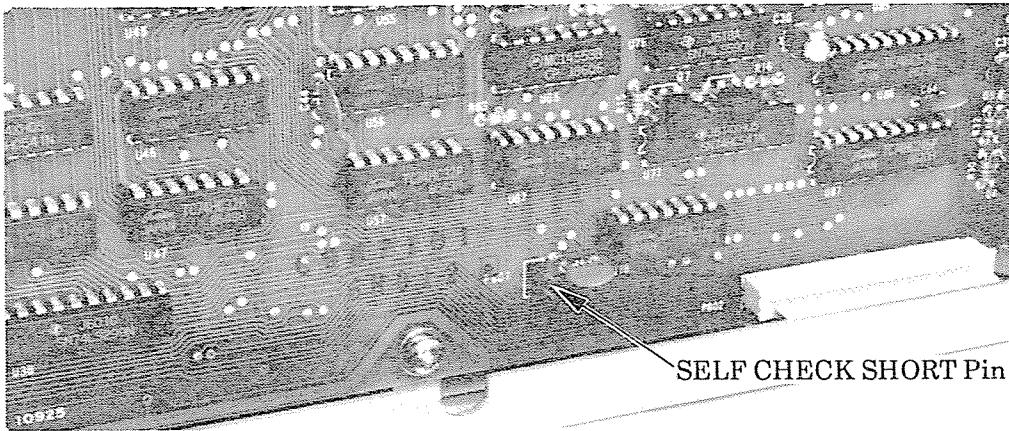
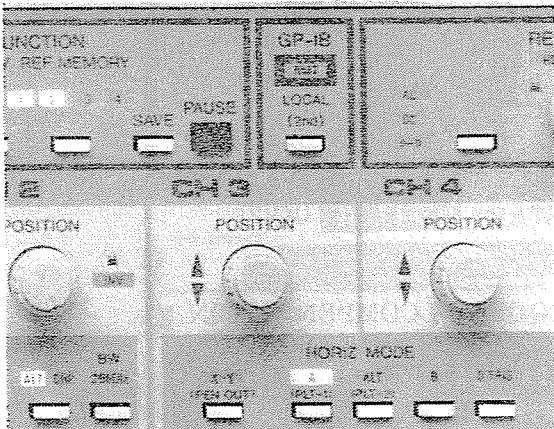
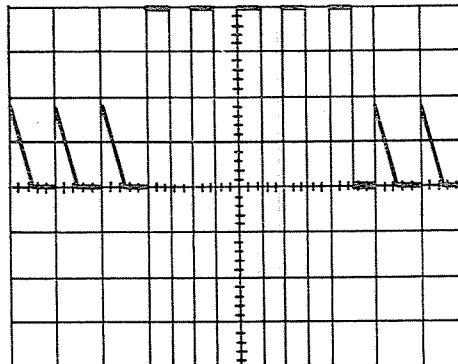

Fig. 4-33 Self check short pin (A8 MAIN CPU board)
Fig. 4-34 2nd function key and SAVE key
Fig. 4-35 Service waveform
- (1) Perform initial setting of the instrument in accordance with Table 4-3.
- (2) Align the starting point of the sweep with the first graticule at the left of the CRT screen.
- (3) Set "STORAGE/REAL" to "STORAGE".
- (4) Short the self check short pin on the A8 MAIN CPU board shown in Fig.4-33. By simultaneously pressing the 2nd function key and the "SAVE" key indicated in Fig. 4-34, the service waveform shown in Fig.4-35 will be displayed.